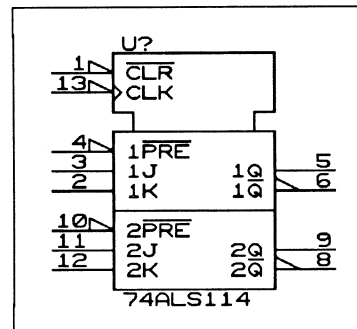

Figure 19-14. The 74ALS114 IEEE part.
- ❖ You have more freedom when drawing the vector components. In particular, some components must be placed outside the part body. For example, an input ACTIVE_LOW must be placed to the left of the part body, as shown by pins 1, 4, 10, and 13 in figure 19-14. Inputs placed to the left of the part body have a negative X offset in the vector section of the IEEE symbol definition. See figure 19-13.
Building the IEEE body outline IEEE symbols usually have a rectangular outline. They often consist of a control section on top of a main signal section. There are usually indentations in the outline near the bottom of the control section. Normally the indentations are 0.1 inch high. Figure 19-14 shows an example.